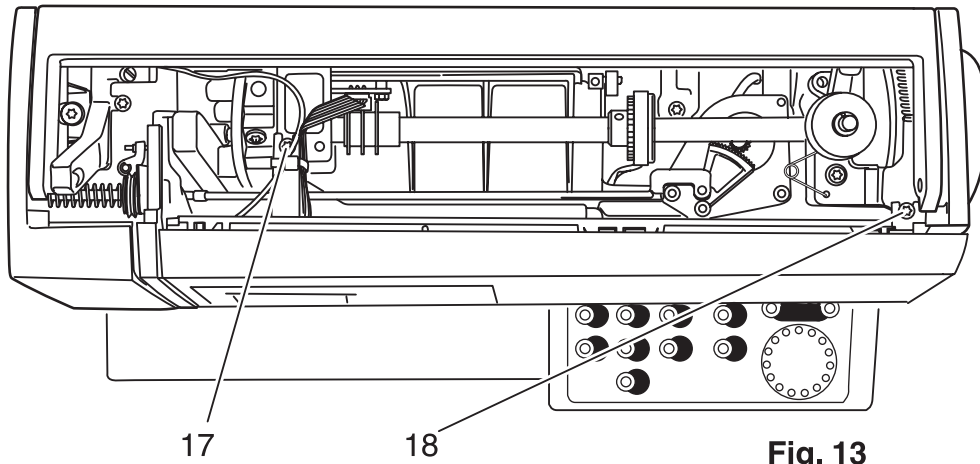
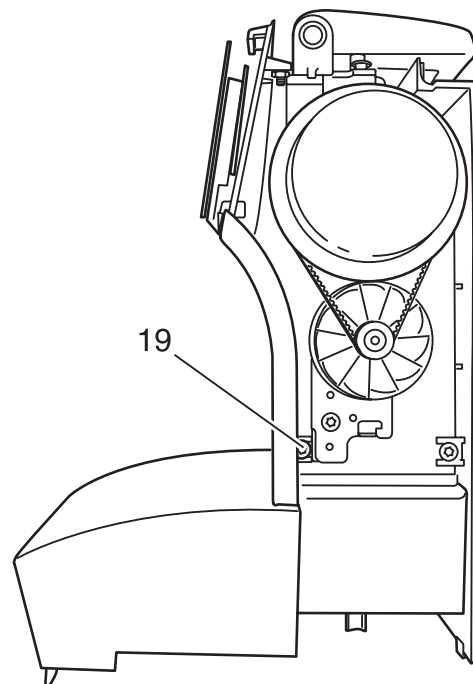

Fig. 13
Fig. 14
- Loosen fastening screws 17 and 18 (fig. 13) as well as fastening screw 19 (fig. 14).